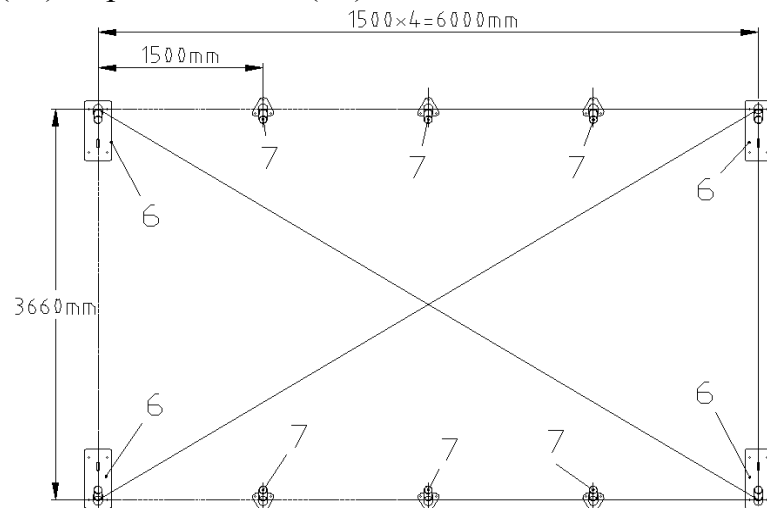

Figure 1
- Baseplates: all baseplates must be installed firmly with expansion bolts (#9) on this step (Figure 1).
- (4) Corner baseplates (#6)
- (6) Middle baseplates (#7)
- (34) Expansion bolts (#9)